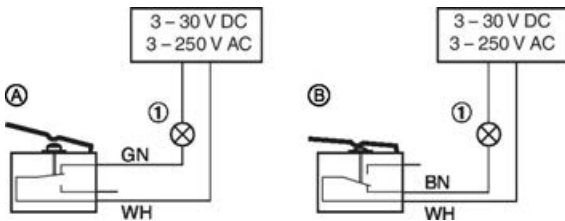

Fig. 42: Wiring of limit switches, example
- The limit switches must be connected according to the wiring example Fig. 42